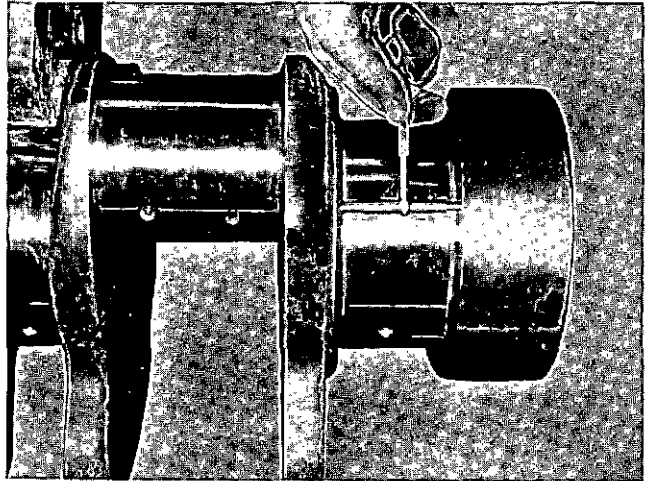

Fig. 1-4-2, V40170. Checking crankshaft flange for wear
2. Measure crankshaft journals with micrometers. See Fig. 1-4-2 or 1-4-5 and Table 1-4-1.
1. Carefully examine crankshaft thrust flange at No. 7 main bearing, Fig. 1-4-2. If surface is scored or scratched, flange should be reground for oversize thrust rings.